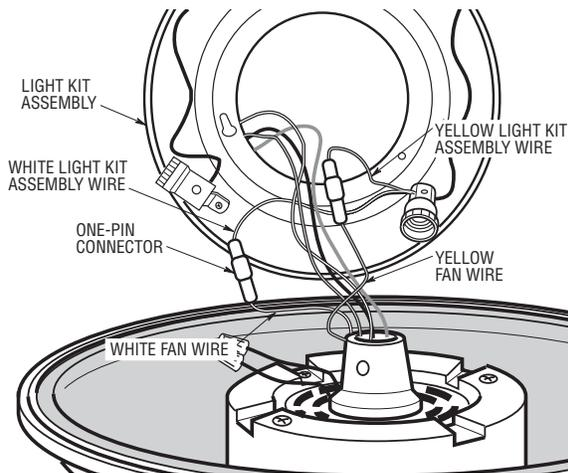

Figure 8
- 15. Securely connect the white fan one-pin connector wire to the white one-pin connector wire from the light kit assembly. Connect the yellow fan one-pin connector wire to the yellow light kit assembly one-pin connector wire (Figure 8).